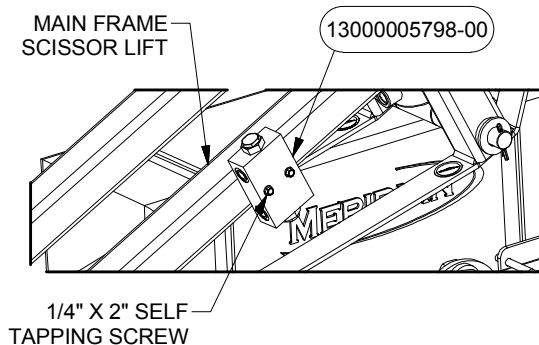

FIGURE 42
- Attach the Check Valve PN# 5798 to the Main Frame Scissor Lift using a Self Tapping Screw (see Figure 42).